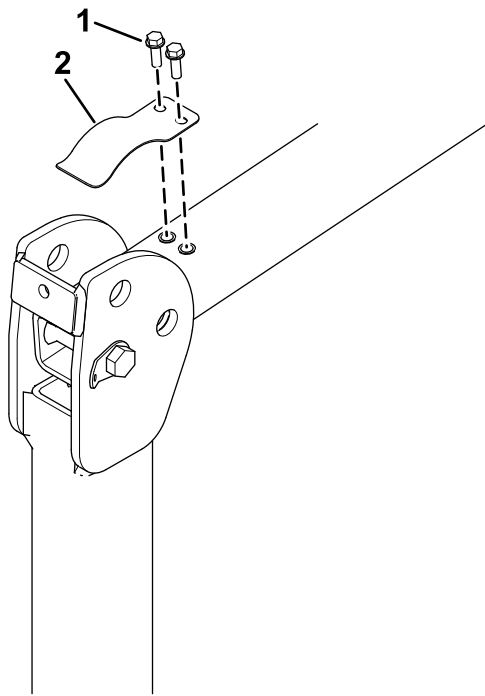

Figure 15
1. With the roll bar in the lowered position, remove the anti-rattle leaf spring (Figure 15) from each side of the roll bar.